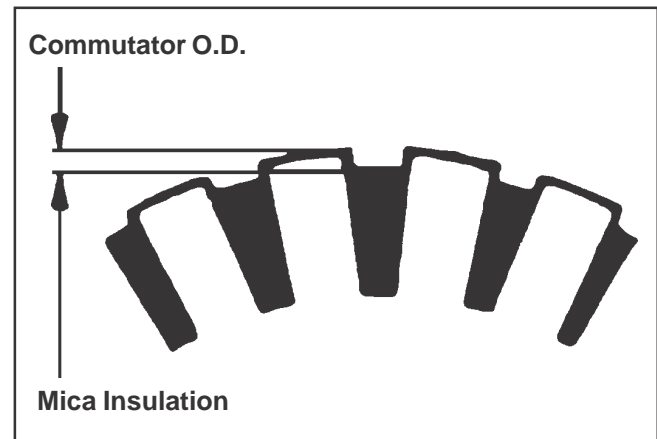

Figure 7-29. Commutator Mica Inspection.
1. Clean and inspect the commutator (outer surface). The mica insulation must be lower than the commutator bars (undercut) to ensure proper operation of the commutator. See Figure 7-29.